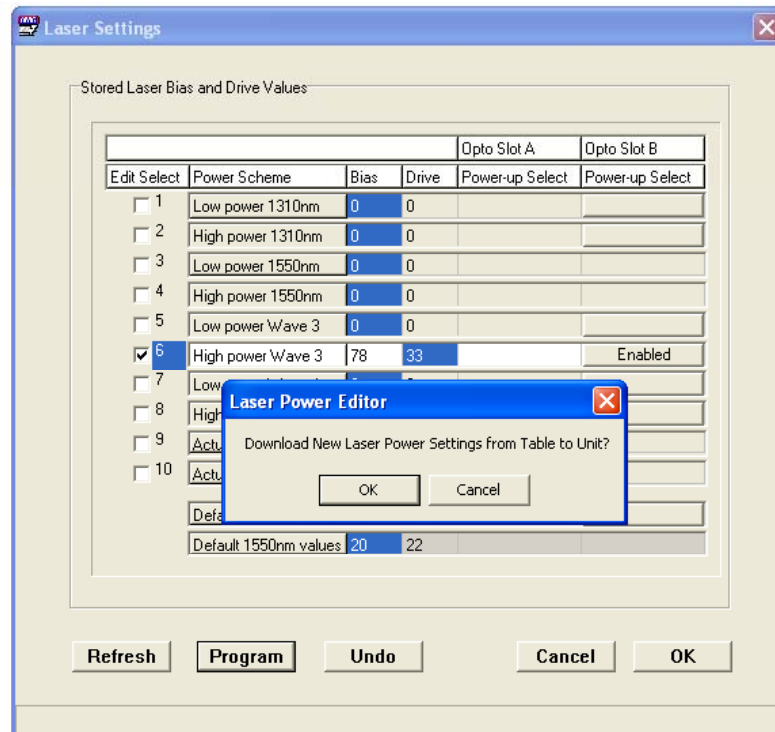

Figure 2: Laser Settings Dialogue Boxes
5. Click the 'Program' button and click 'OK' to the Laser Power Editor dialogue box as shown in Figure 2.